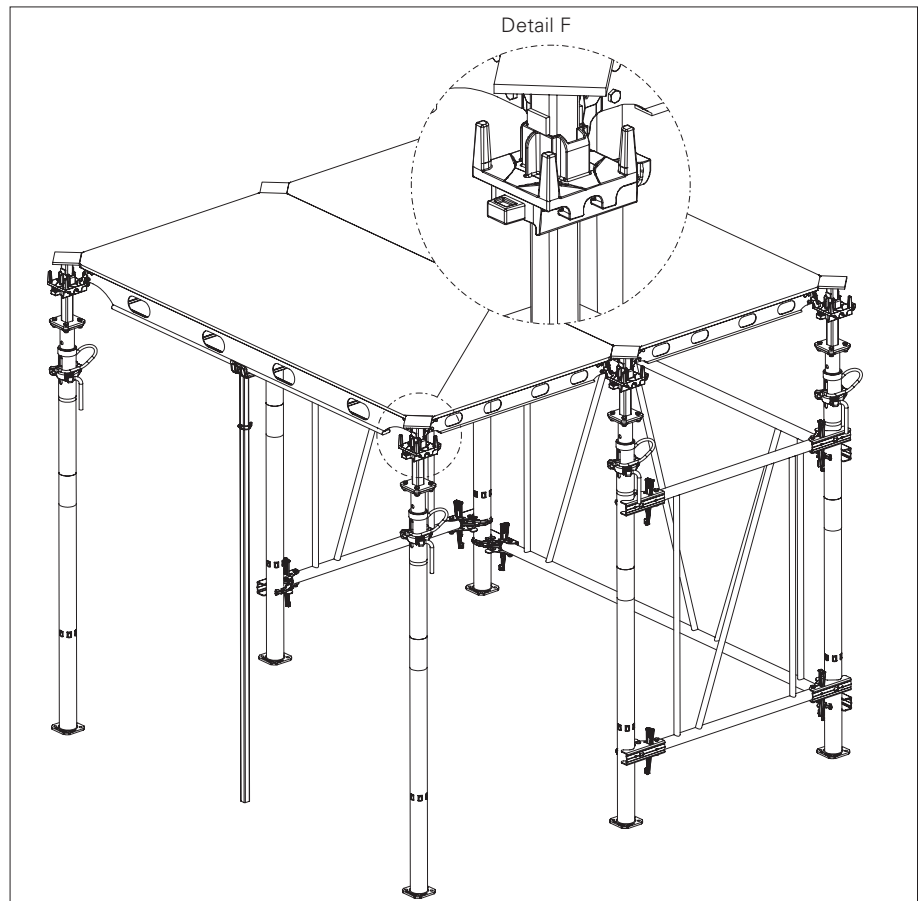

Fig. A5.08
3. Attach the next two props to the panel corners in the same manner. (Fig. A5.08).